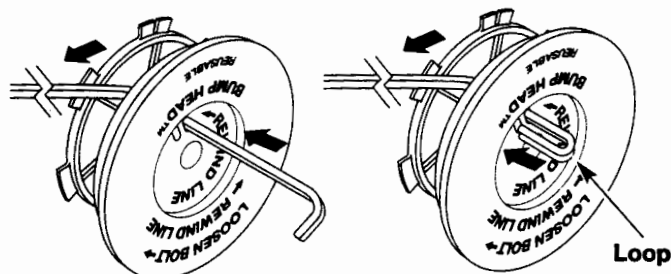

Fig. 33
- Take approximately 9 feet (3 m) of new trimming line. Insert one end of the line through one of the two holes in the inner reel (Fig. 33). Pull the line through the inner reel until only about 4 inches is left out.
- Insert the end of the line into the open hole in the inner reel and pull the line tight to make the loop as small as possible (Fig. 33).